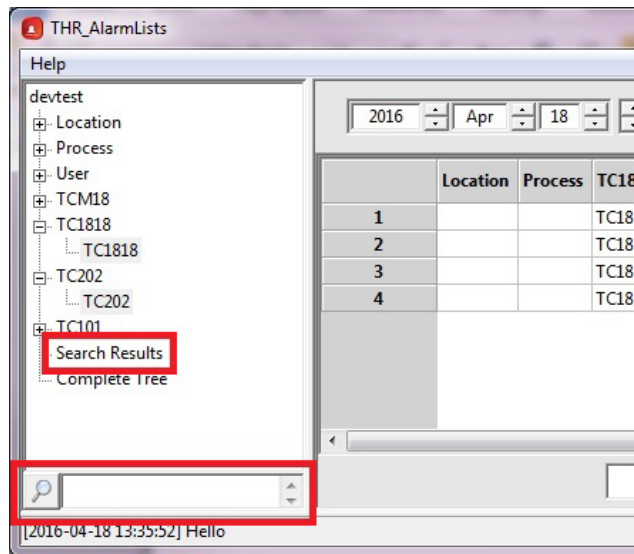

Figure 2: Tree View - Search Result
- 1. **Searching:** The result of the search on the tree is stored under Search Results (Figure 2).